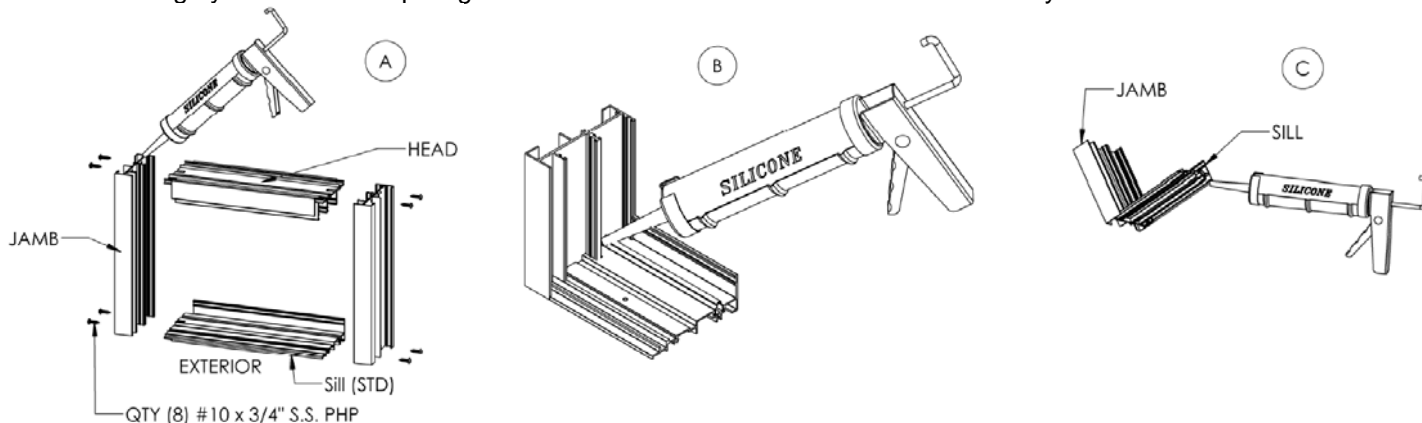

**Figure 7:**
- Install male and female yokes with #8 x 3/4" screws, 6" from ends, maximum 18" on centers (Figure 7).